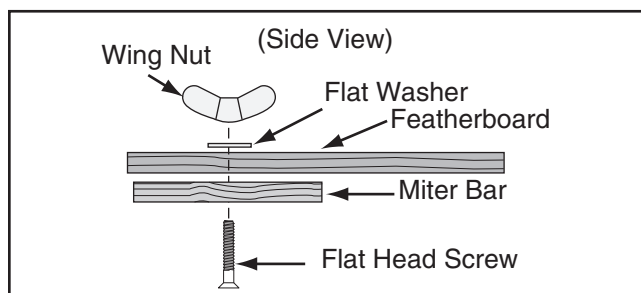

Figure 93. Assembling miter slot featherboard components.
8. Assemble the miter bar and featherboard with a $\frac{1}{4}$ "-20 x flat head screw, flat washer, and a wing nut or a star knob (see **Figure 93**). Congratulations! Your featherboard is complete.